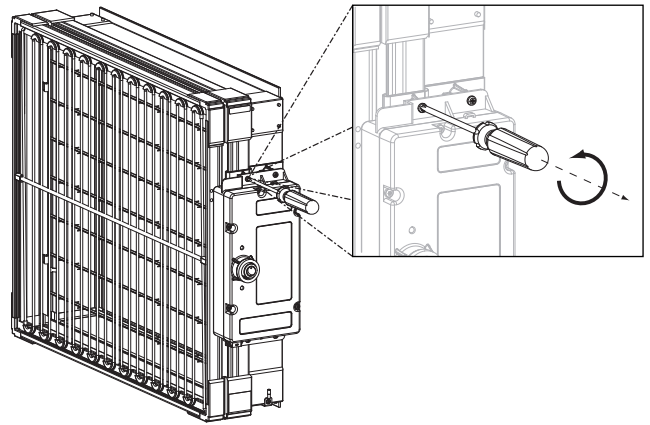

Fig. 9
- 8: Remove the power supply module from the enhancement module by unscrewing the four Phillips head screws (Fig. 9).